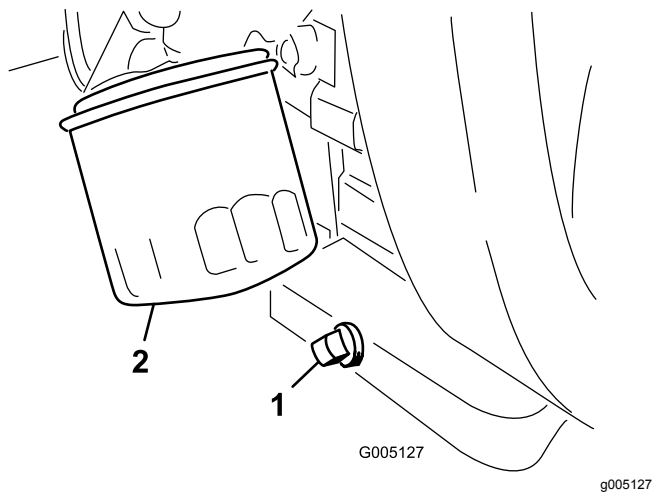

Figure 47
1. Remove the drain plug (Figure 47) and let oil flow into a drain pan. When the oil stops, install the drain plug.
2. Remove the oil filter (Figure 47). Apply a light coat of clean oil to the new filter gasket.